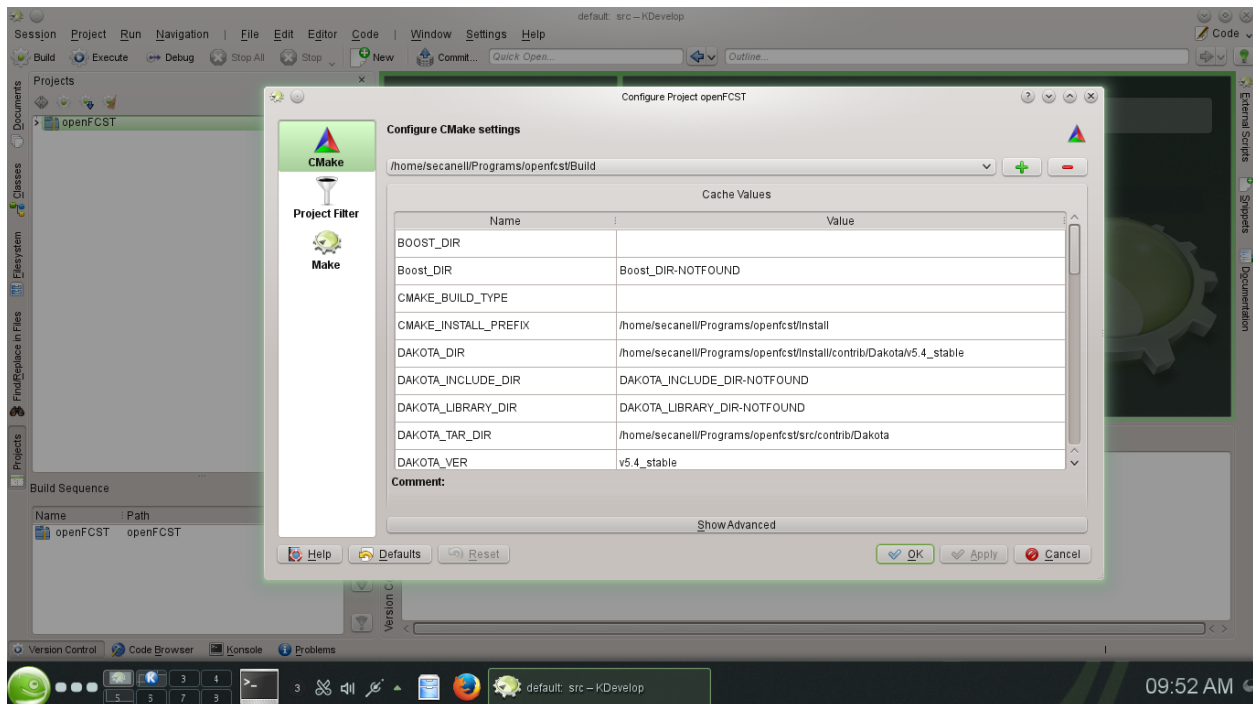

Figure 7.2: Configuring your CMake project in KDevelop.
- If you want to modify the compilation parameters in the project, you can do that by right clicking on the project name and selecting **Open Configuration....** The menu in Figure 7.2 would appear. You should not need to modify many parameters, however several parameters are handy. The variable `OPEN_FCST_BUILD_TYPE` allows you to compile the code in Debug or Release mode. The former is used during code development as it provides a lot more information about errors, the latter is best for simulations as the code can be several times faster. Another useful parameter is `OPEN_FCST_DIMENSIONS`. If set to 2, it will only compile a 2D version of OpenFCST. If you compile with 3, it will compile a 3D version. If you compile with 1, it will compile both 2D and 3D versions. Finally, on the left menu if you click on Make, the parameter `Number of simultaneous jobs` sets up the compilation for using as many threads as specified.